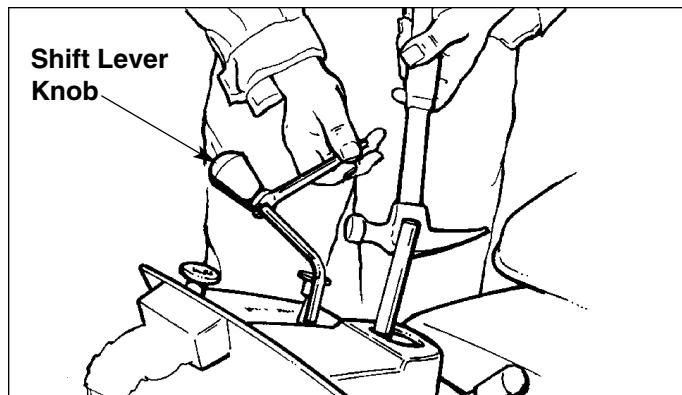

Figure D-5. Remove Shift Lever Knob (Later Model With Rubber Knob)
- b. Rubber knob - is pressed onto end of shift lever and may be removed by placing a 7/16" open end box wrench under the knob and tapping the wrench outward with a hammer or rubber mallet. (Figure D-5) Knobs that resist removal with this method may be heated with a heat gun or blow dryer to expand the I.D. of the knob slightly and separate it from the end of the shift lever.